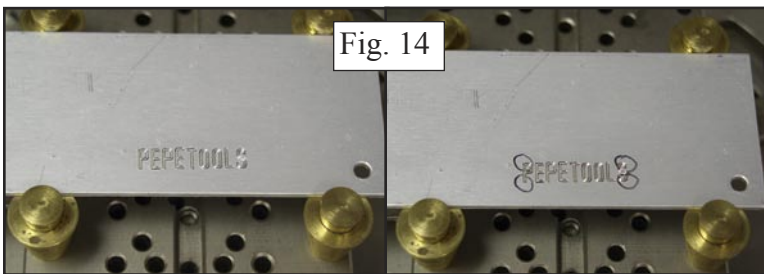

Fig. 14
16. Once you are sure all the adjustments have been made, place the tracing stylus in the first letter and bring the diamond stylus down to engage the article. Apply a small amount of pressure and trace the letter. Release the diamond stylus first before moving the tracing stylus out of the groove of the letter. Failure to release the diamond tip first will result in unwanted scratches and marks on the article. It is wise to apply only a small amount of pressure to the diamond stylus. Excessive pressure will result in distorted letters. The letters can be retraced if not enough pressure was applied. ***Fig. 14***